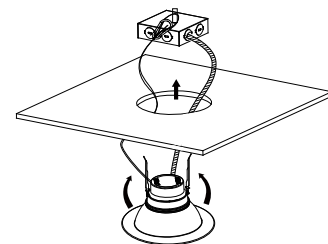

Fig. 6
6. Turn on the power to confirm the fixture is working properly. (Fig. 6)